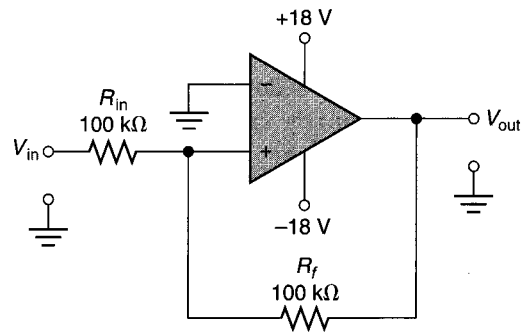

FIGURE 19.56
22. Determine the UTP and LTP values for the Schmitt trigger in Figure 19.56.